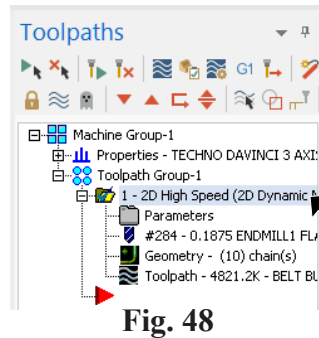
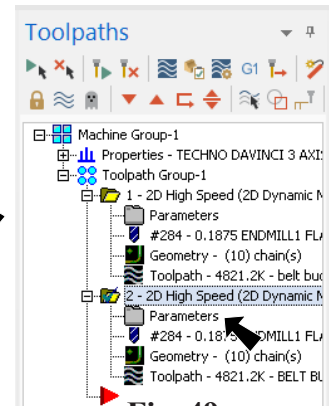

Fig. 48
Fig. 49
Step 2. Copy and Paste **Dynamic Mill** toolpath in the Toolpaths Manager. To copy, click to select toolpath, **Fig. 48**. Then, use **Ctrl-C** and **Ctrl-V**, **Fig. 49**.
Step 3. Expand copied toolpath and click **Parameters**, **Fig. 49**.